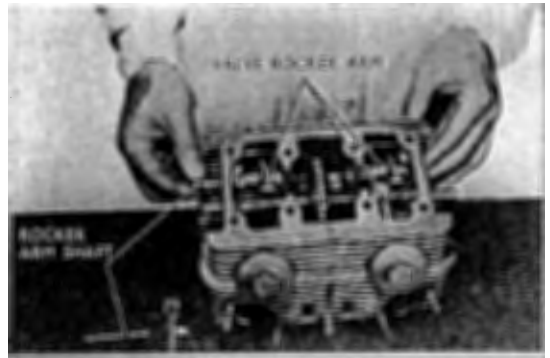

Fig. 3.30 Removing valve rocker arm
1. Refer to section C above. When the right and left covers are removed, removal can be made. (Refer to Fig. 3.30)
- (a) Remove the left crankcase cover. (Refer to Fig. 3.30)